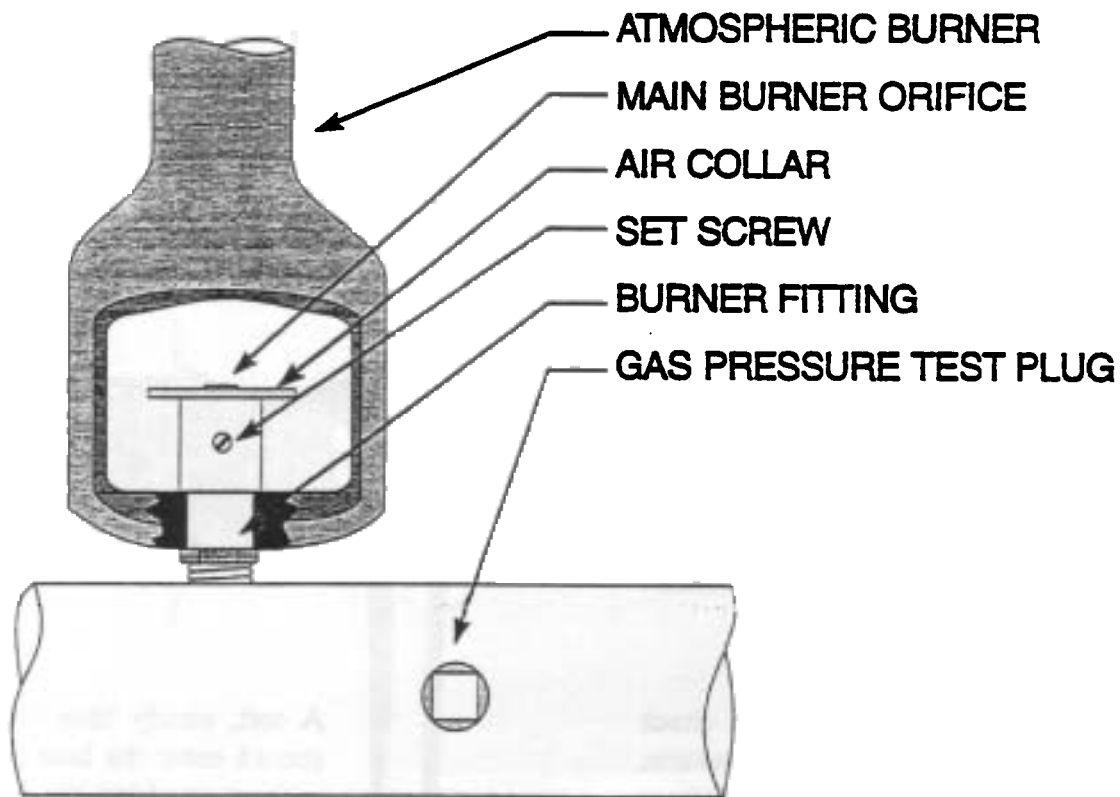

Figure 1-4 Gas Manifold with Burner
- c. Remove the manifold pressure tap plug and connect an accurate pressure gauge (range of 0-16" w.c. in 0.1" increments) or manometer (Figure 1-4).
- l. Unlock the air collars by loosening the set screw for the collars. (Figure 1-4)
- m. Light the pilot light for the cooker following the procedures in section 1.4.3 and turn the POWER switch ON to light the main burner. If the unit is equipped with the digital controller, press the on key ①. If the unit is equipped with manual controls, place the FUNCTION SELECT switch on BOIL to keep the main burner on during the adjustment.